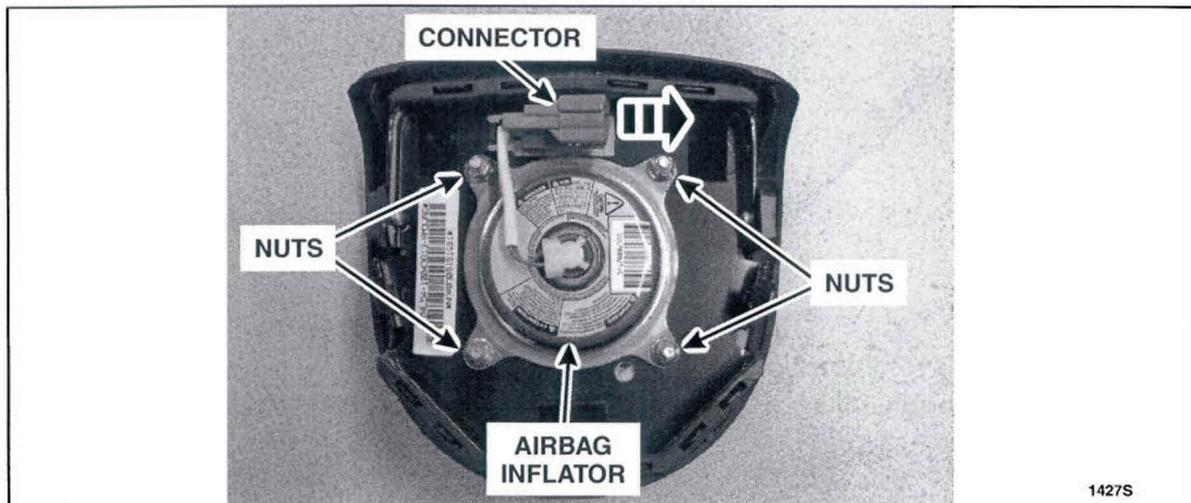

FIGURE 1
3. Release the retaining tab and slide the airbag inflator connector off the tang. See Figure 1.
4. Remove and discard the four airbag inflator retaining nuts from the driver side airbag. See Figure 1.
Remove the airbag inflator and set aside for return shipping. See Figure 1.
6. **NOTE:** The *new* airbag inflator must be installed in the same orientation as the original part to ensure the inflator module and airbag harness electrical connector T-shape indexes are aligned properly. See Figure 1 and 2.
Install the *new* inflator into the driver airbag. See Figure 1.
8. Install four *new* airbag inflator nuts onto the driver airbag. See Figure 1.
9. Slide the airbag inflator connector onto the tang. See Figure 1.